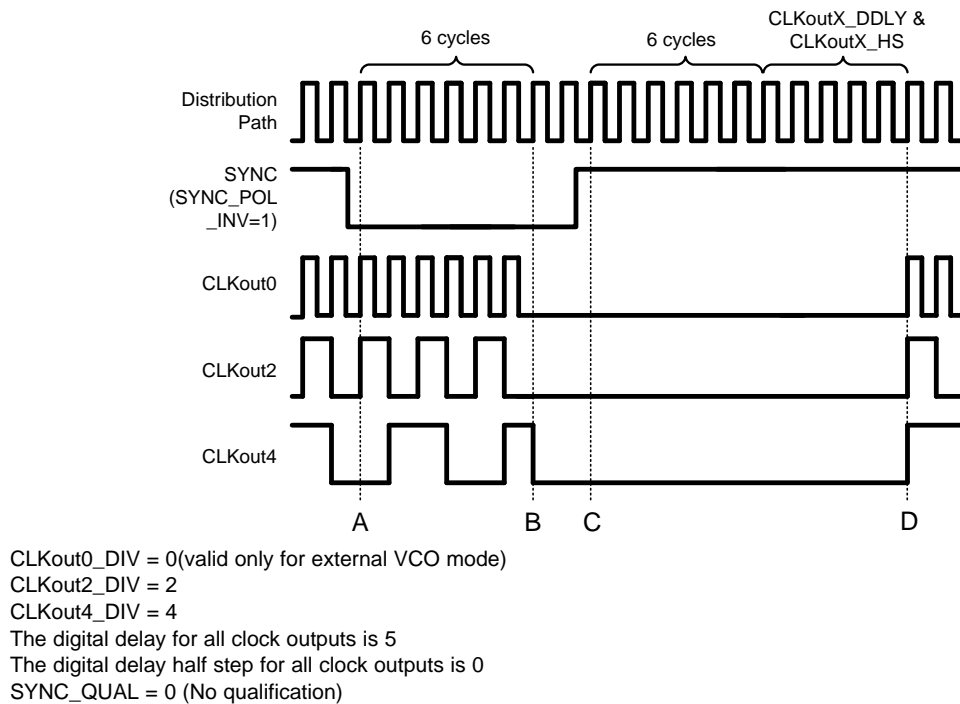
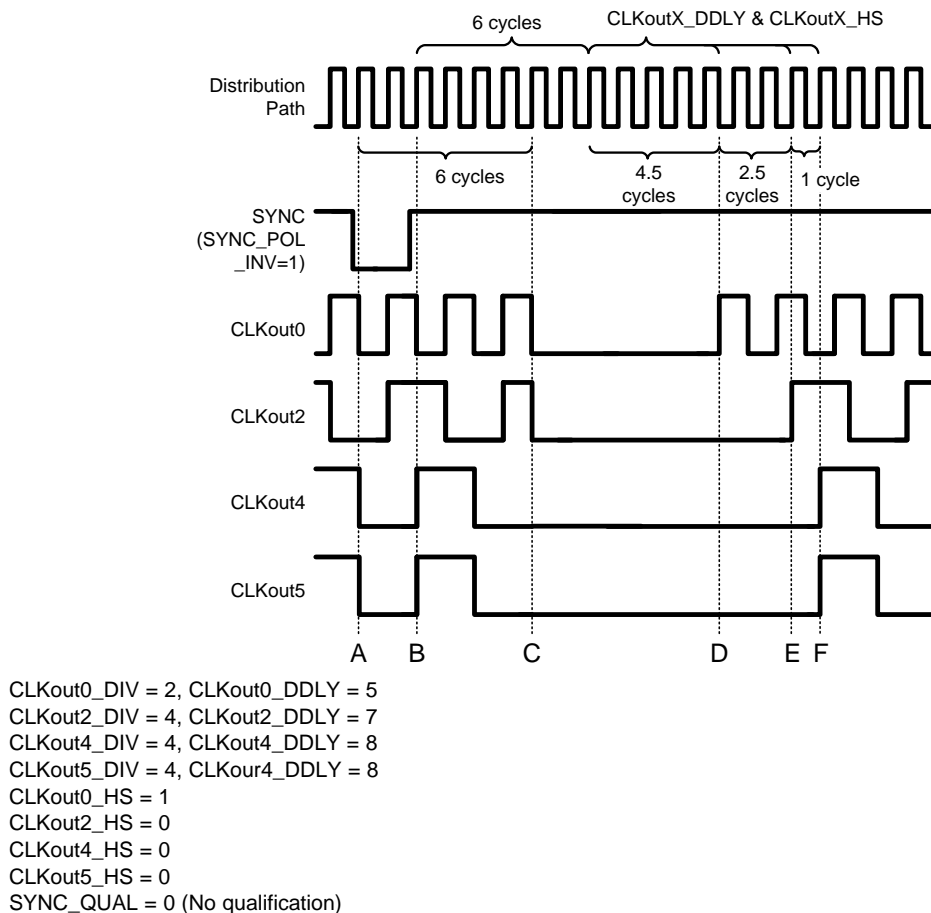

Figure 11. Clock Output Synchronization Using the SYNC Pin (Active Low)
Figure 12. Clock Output Synchronization Using the SYNC Pin (Active Low)
Figure 12 illustrates clock outputs programmed with different digital delay values during a SYNC event.
See Figure 11 during this discussion on the timing of SYNC. SYNC must be asserted for greater than one clock cycle of the clock distribution path to latch the SYNC event. After SYNC is asserted, the SYNC event is latched on the rising edge of the distribution path clock, at time A. After this event has been latched, the outputs will not reflect the low state for 6 cycles, at time B. Due to the asynchronous nature of SYNC with respect to the output clocks, it is possible that a glitch pulse could be created when the clock output goes low from the SYNC event. This is shown by CLKout4 in Figure 11 and CLKout2 in Figure 12. See Relative Dynamic Digital Delay for more information on synchronizing relative to an output clock to eliminate or minimize this glitch pulse.
Figure 12 illustrates the timing with different digital delays programmed.
- For example see CLKout4 in Figure 11 and CLKout2 in Figure 12.
1. The device is programmed from register R0 to R30 with values that result in the device being locked and operating as desired, see the system requirements above. The phase of all the output clocks are aligned because all the digital delay and half step values were the same when the SYNC was generated by programming register R30. The timing of this is as shown in Figure 11.